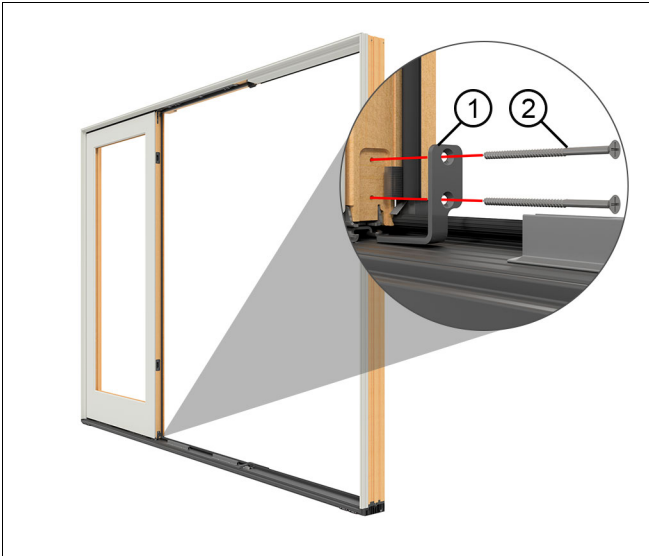

Figure 52
7. Install the sill to panel bracket. Slide the bracket under the sill bracket (attached to the sill). Then fasten to the stationary panel with #8 x 3" screws provided. See Figure 52.